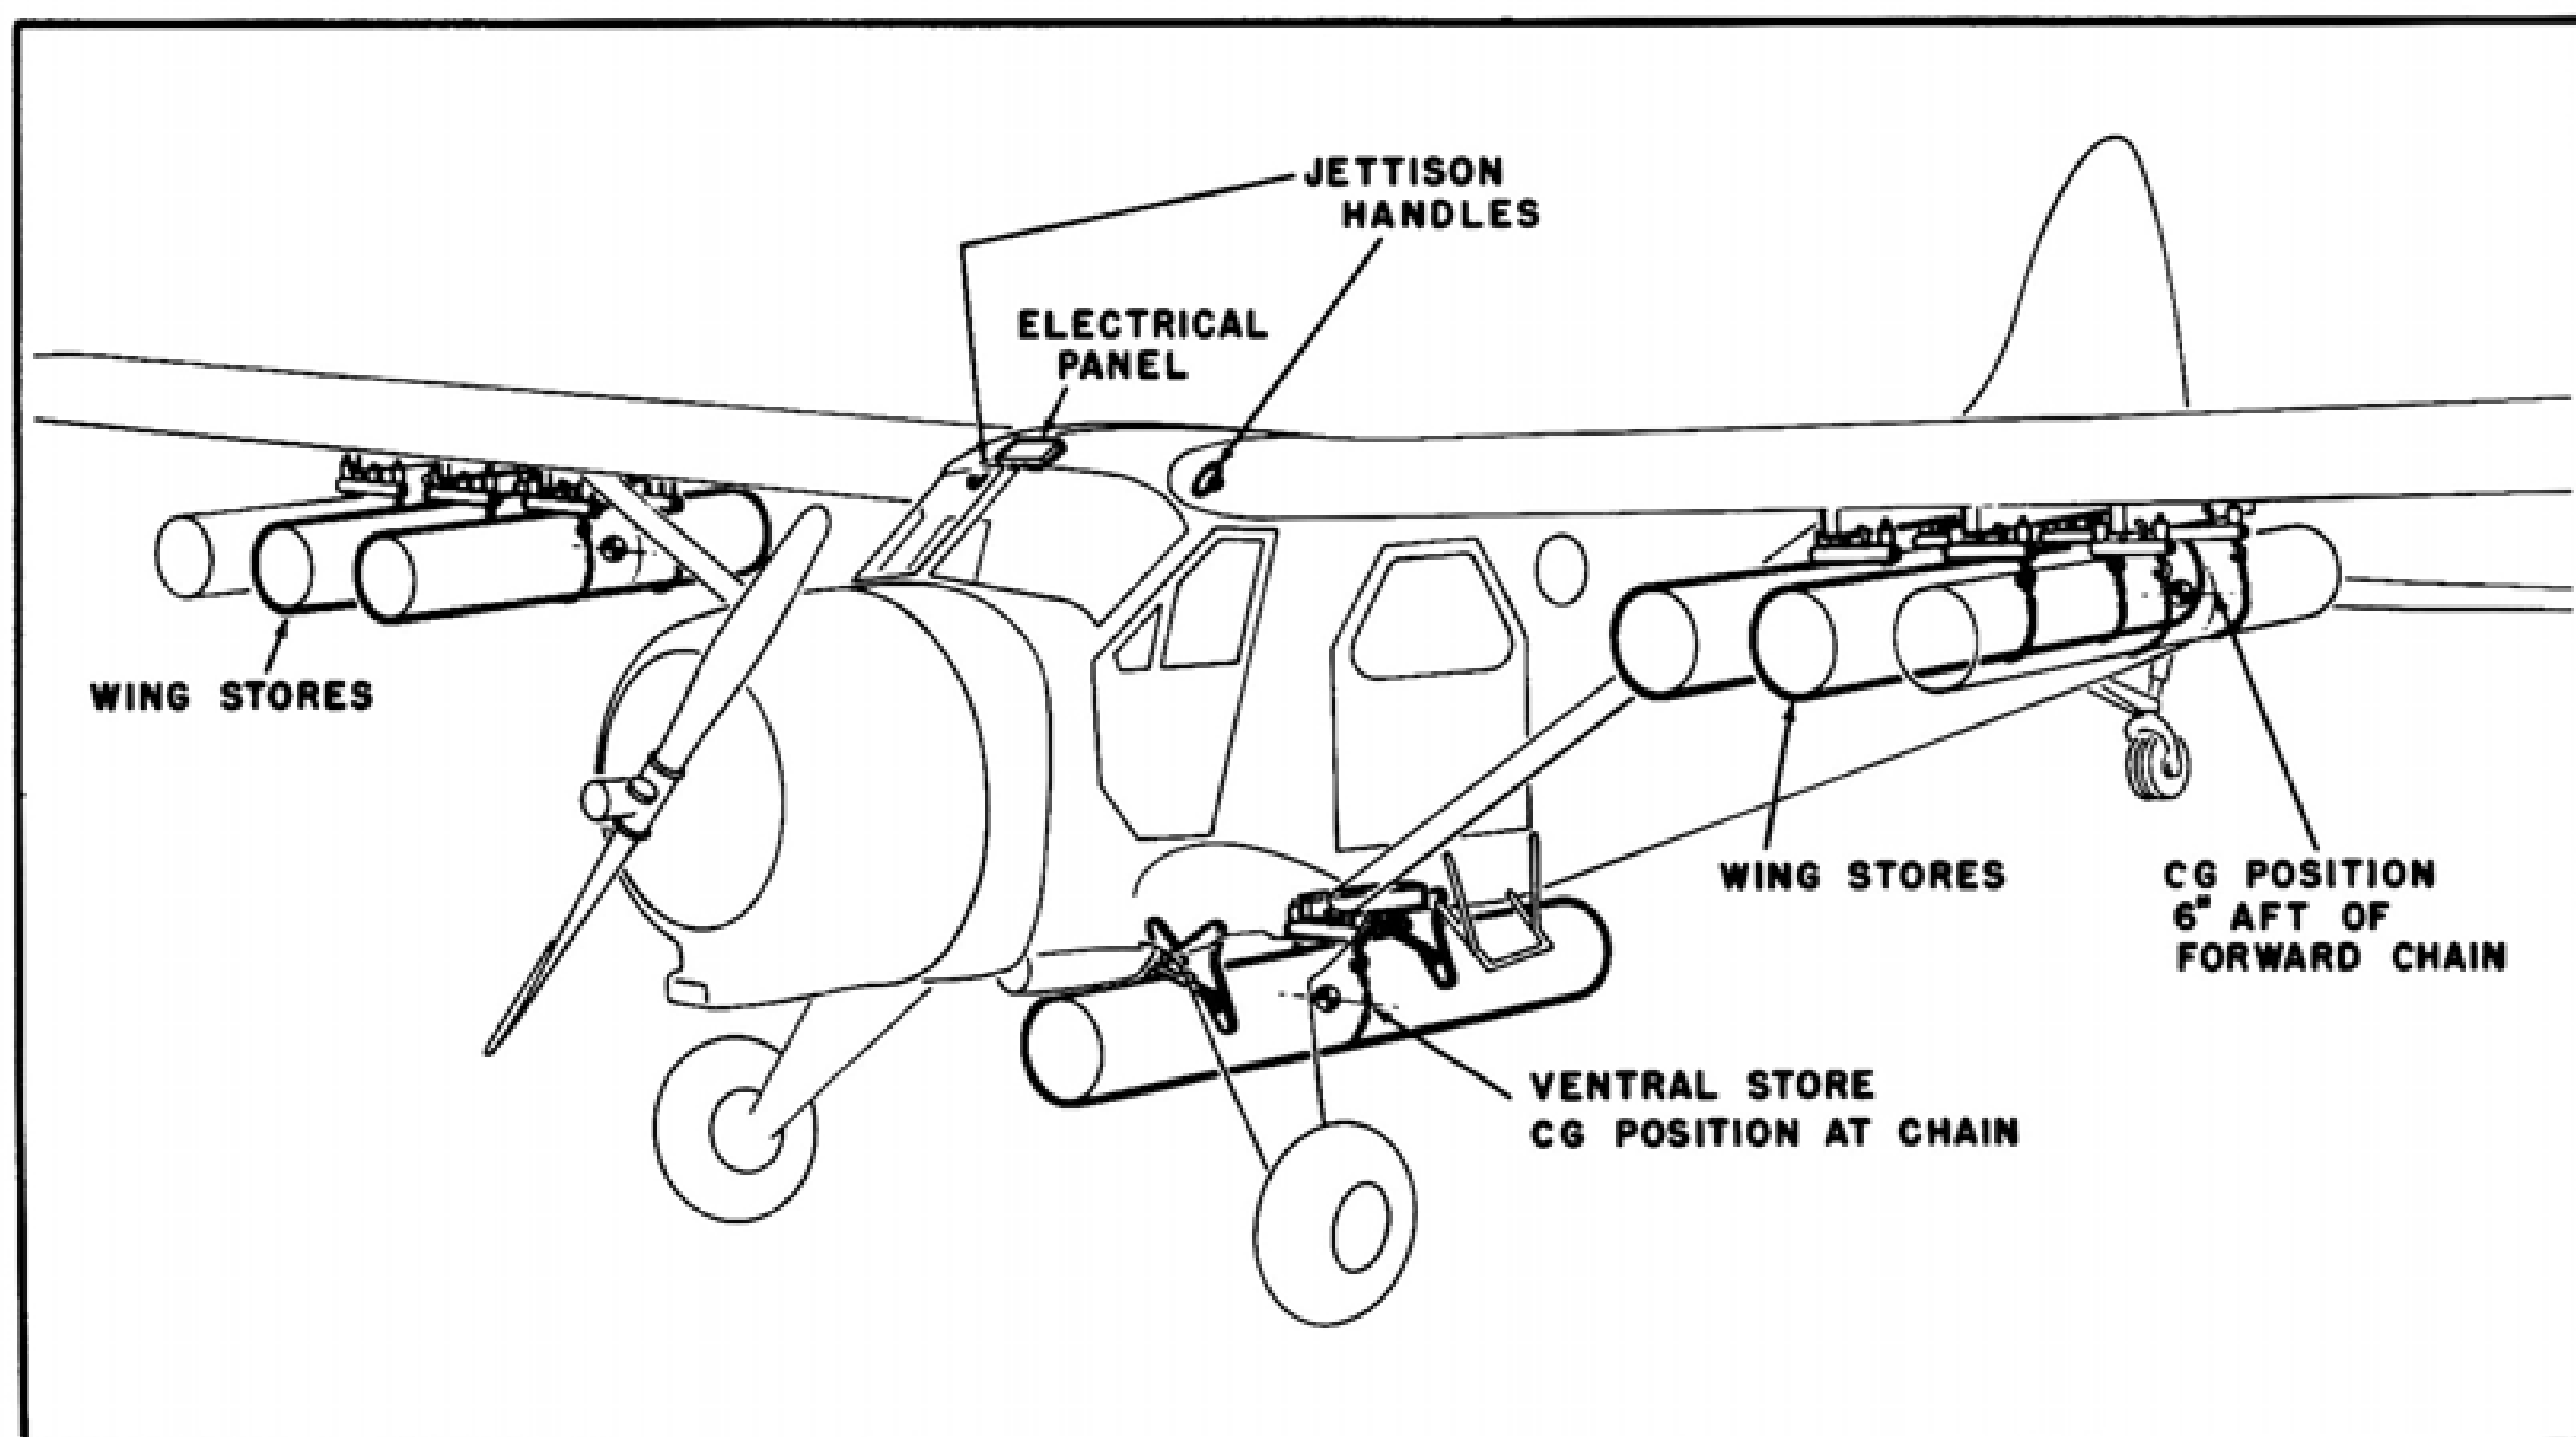

FIG S1-4 SUPPLY DROPPING INSTALLATION
2.4 Supply Dropping Installation (See Figure S1-4) NOTE